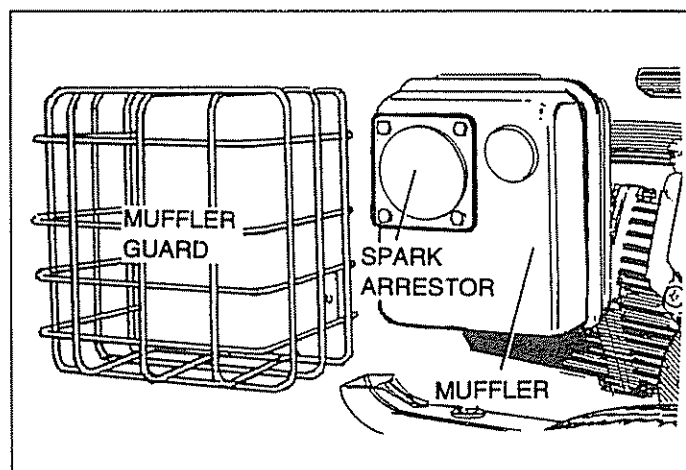

FIG. 26
- To remove the muffler guard from the muffler, remove the three screws that connect the guard to the muffler bracket (Fig. 26).